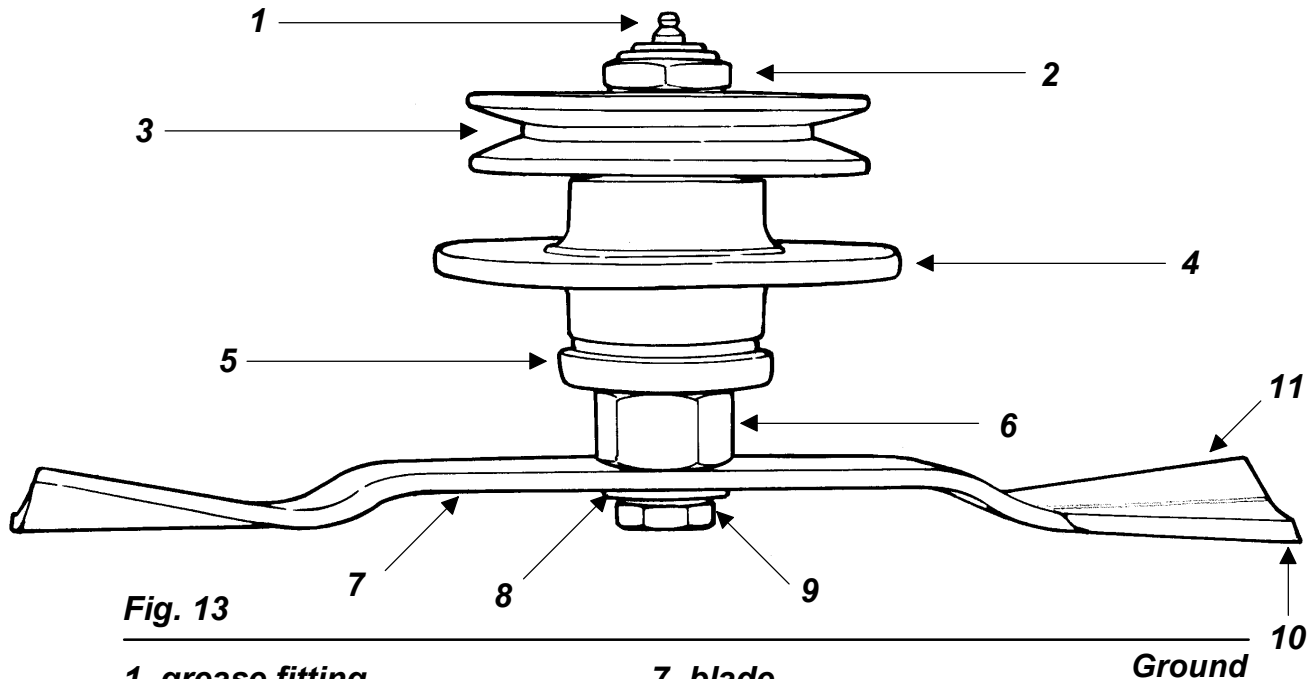

Fig. 13
1. The blade turns in a **counter clockwise** direction when viewed from the bottom of the deck. The cutting edge must be towards the direction of rotation. The lift wing of the blades is closest to the deck and the cutting edge away from it (see fig. 13).
2. Install the cup washer (see fig. 13) over the blade bolt and secure the blade in place as described above.